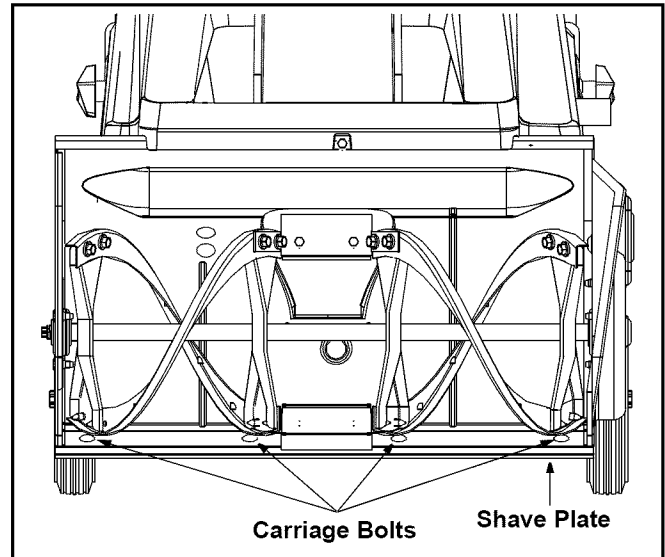

Figure 6
- To adjust, tip the snow thrower back so that it rests on the handle. Loosen the lock nuts from the carriage bolts which secure the shave plate to the housing. See Figure 6.
- Remove the four carriage bolts and hex lock nuts which secure it to the snow thrower's auger housing. Refer to Figure 6.